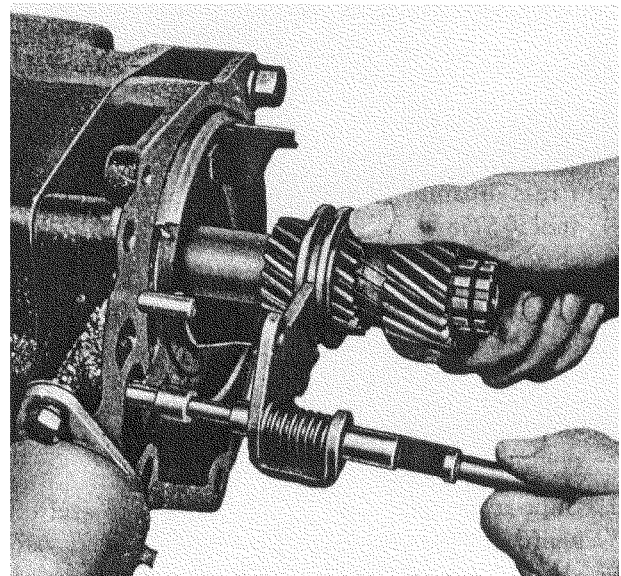

Fig. 35—Removing Sun Gear and Shift Rail Assemblies
4. Remove sun gear and shift rail assemblies from shaft (fig. 35). Shift rail collar may be separated from sun gear by removing snap
- Start the sun gear onto the mainshaft. Hold shift rail so arm of fork fits in collar on sun gear and forward end of shift rail enters opening in adapter and transmission case (fig. 35). Slide both assemblies forward so pin in adapter locates the fork, and sun gear engages control plate.